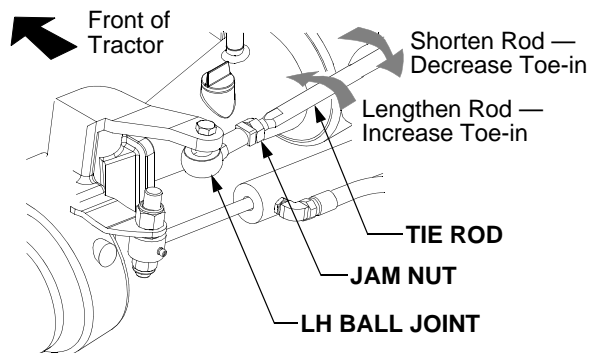

Figure 29
- Loosen the jam nuts at both the LH and RH ball joints. Refer to Figure 29.
Rearward to shorten the tie rod and decrease the toe-in. See Figure 29.
Forward to lengthen the tie rod and increase the toe-in. See Figure 29.